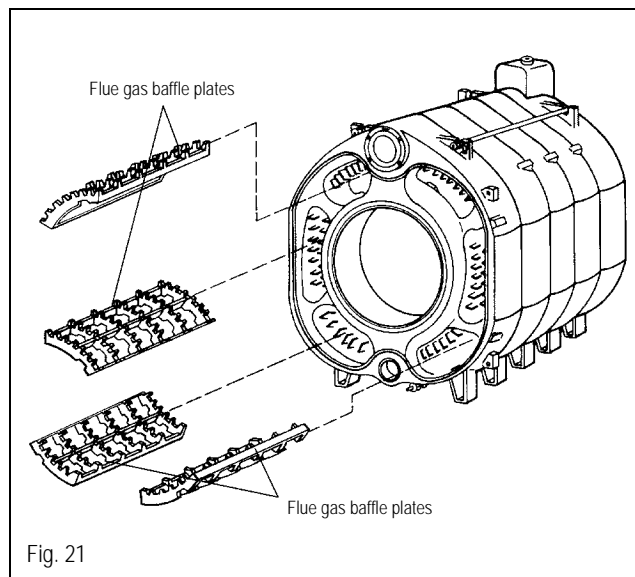

Fig. 21
- Flue gas baffle plates are factory installed in an assembled boiler. Remove corrugated card board from baffle plates and insert plates as shown in Figure 21.